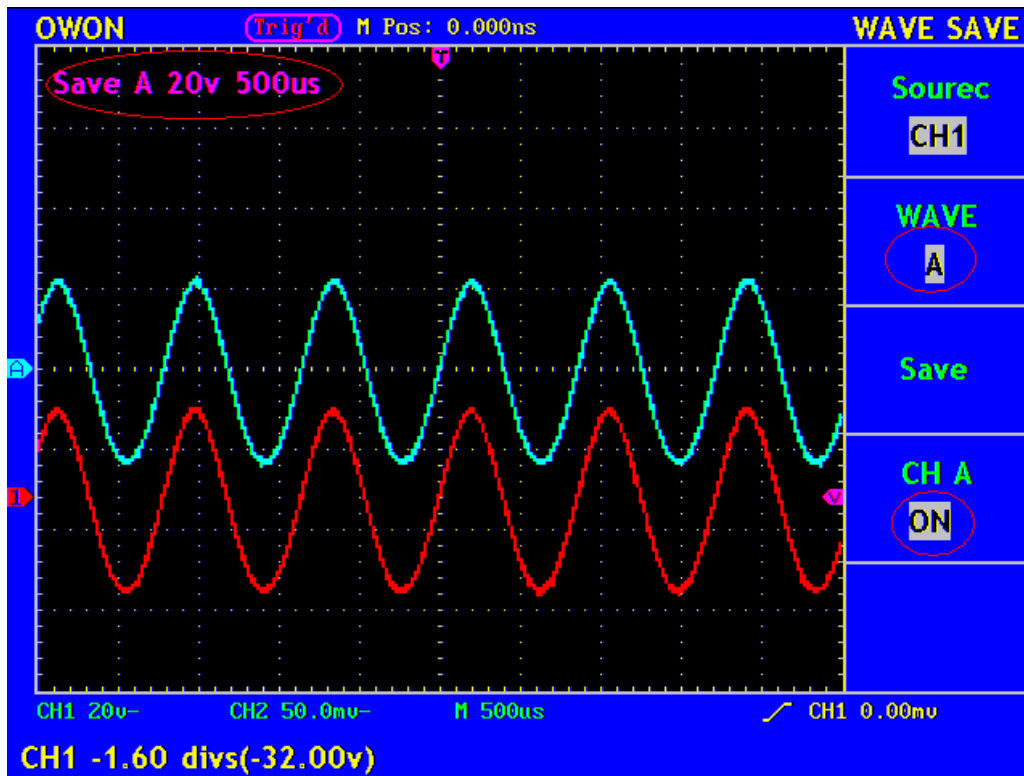

Fig. 51 Wave Saving
4. Press the **F4** menu selection button and choose **ON** for CH A. The stored wave form A will be displayed in the screen. The voltage level and time base level will also be shown at the upper left corner of the display area at the same time (see Fig.51).